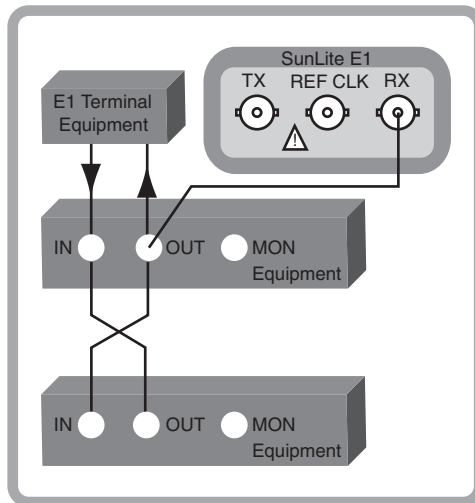

Figure 66 Measuring Signal Level
2. Connect to the circuit as in Figure 66.